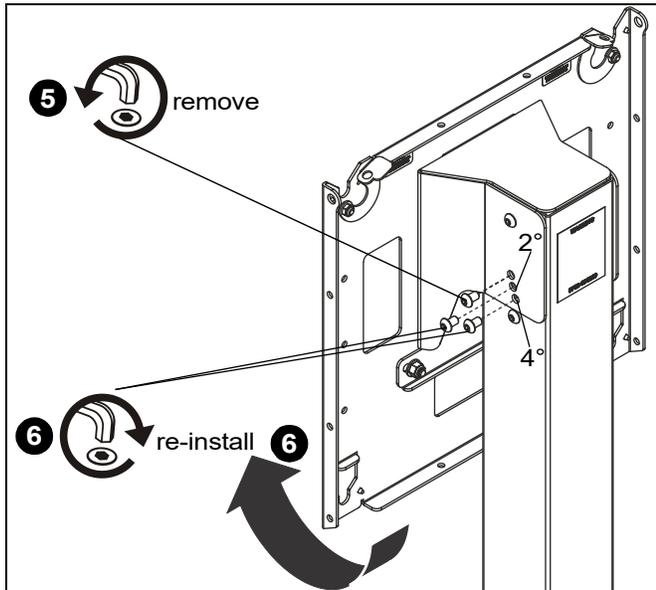

Figure 35
5. Use 3/16" hex key (H) to remove tilt adjustment screws on both sides. (See Figure 35)
6. Adjust faceplate tilt and re-install removed screw in either the middle hole for 2° tilt or the lowest hole for 4° tilt. (See Figure 35)